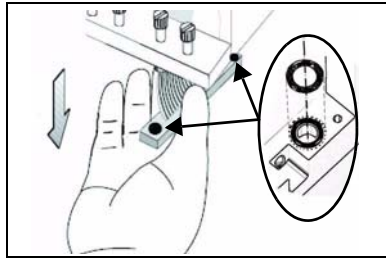

Figure 6-72: O-ring seals on the print head
14. Inspect the replacement head and make sure that the O-ring seals are in place (see figure 6-72).